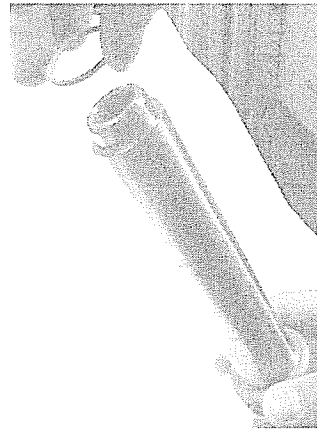

Figure 15
8. Place o-ring on plunger (Figure 15).